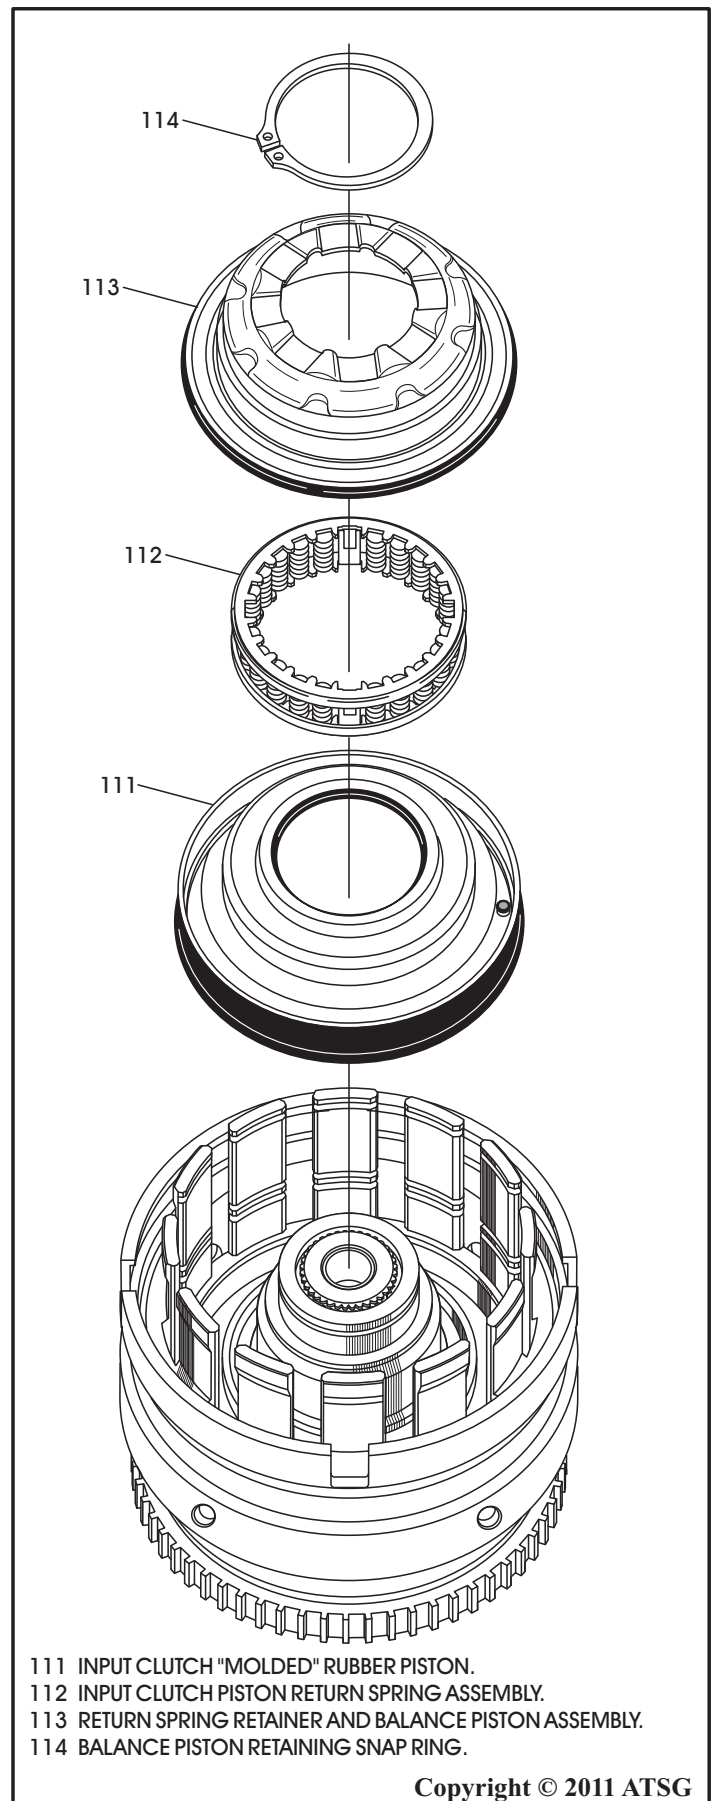

Figure 100
17. Install the input clutch "molded" rubber piston in the input clutch retainer, as shown in Figure 100.
18. Install the input clutch piston return spring on top of the input clutch piston (See Figure 100).
19. Install the spring retainer/balance piston, as shown in Figure 100. The balance piston also has a "molded" rubber seal.
20. Using a suitable shop press, compress return spring assembly and install the flat snap ring into the groove. Refer to Figure 100 and snap ring chart in Figure 94.
24. Install the underdrive/overdrive backing plate upper **tapered** snap ring into the housing with the tapered side facing up (See Figure 100).